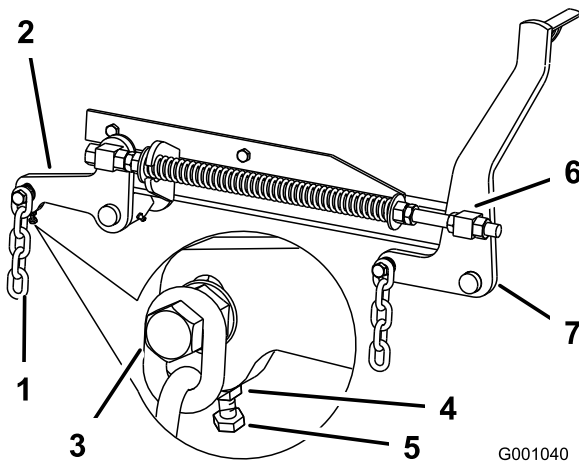

Figure 71
7. If the measurements at positions **B** or **C** are not correct, loosen the bolt attaching the rear chain to the rear support arm (Figure 71).
8. Loosen the jam nut under the rear support arm and adjust the adjustment bolt to get a measurement of 3-1/8 to 3-1/4 inches (80 to 83 mm) (Figure 71).
7. Loosen the front swivel jam nuts, at the front of the right and left swivels, approximately a 1/2 inch (13 mm) (Figure 71).
8. Adjust the lift nuts on both the left and the right side of the machine to achieve 1/4 to 3/8 inch (6 to 10 mm) lower in front at A than in the rear at B (Figure 71).